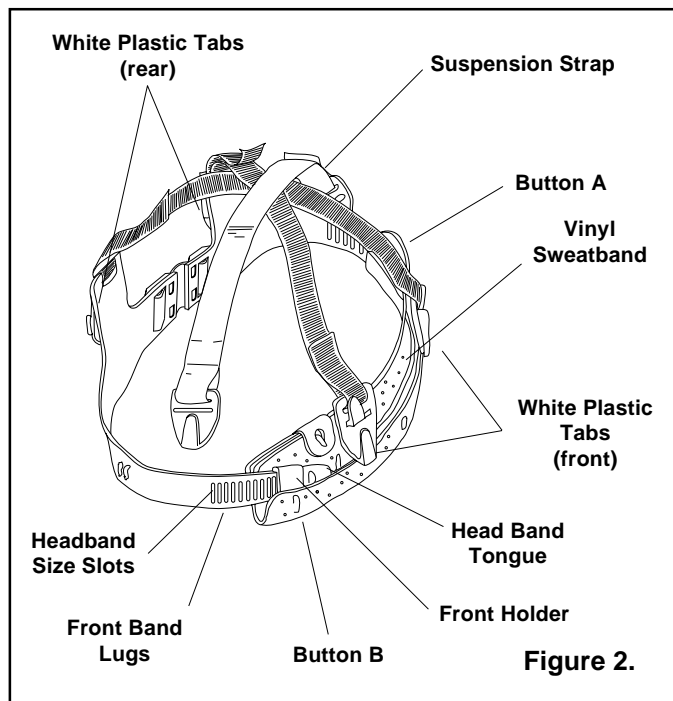

Figure 2.
6.1 Helmet Suspension, Adjustment and Replacement, Figure 2
6.1.3 Unfasten the vinyl sweatband from the two lower, outside buttons (A and B in Figure 2).